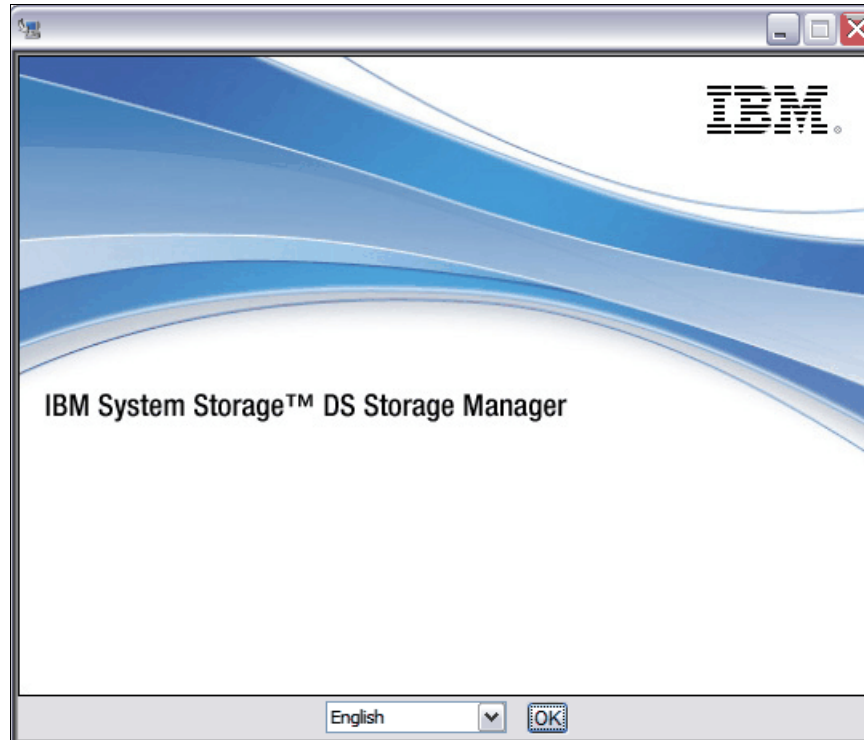

Figure 5-2 IBM DS Storage Manager Language Selection
2. Select the language to display the license agreement, and click **OK** (see Figure 5-2).